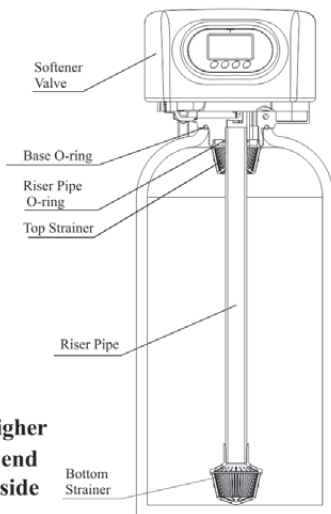

Figure 1-1
- ①The filter or softener should be located close to drain.
- ②Ensure the unit is installed in enough space for operating and maintenance.
- ③Brine tank needs to be close to softener.
- ④The unit should be kept away the heater, and not be exposed outdoor. Sunshine or rain will cause the system damage.
- ⑤Avoid installing the system in circumstance of acid/alkaline, magnetic or strong vibration, because above factors will cause the system disorder.
- ⑥Do not install the filter or softener, drain pipeline or overflow pipe in circumstance where temperature may drop below 5℃, or above 50℃.
- ⑦Install the system in the place where with the minimum loss in case of water leakage.
① Install control valve
a. As the Figure 1-1 shows, select the riser pipe with 26.7 mm OD, glue the riser pipe to the bottom strainer and put it into the bottom of tank, cut off the exceeding pipe out of tank top opening and make external rounding.